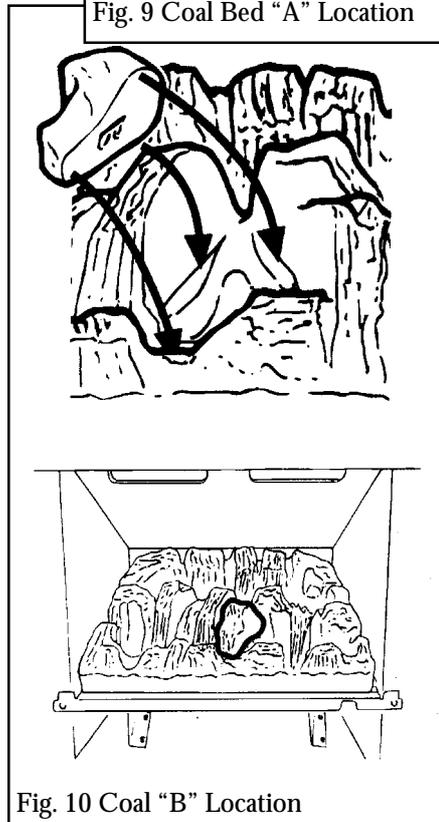

Fig. 10 Coal "B" Location
**10.1.2** Position the front centre coal (embossed "B" on its underside) in the well in the coal bed marked "B" - see figure 10.